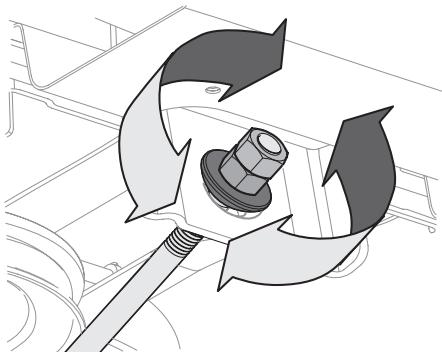

Figure 29
- To raise the front of the deck, loosen the outer nut then tighten (thread inward) the inner nut against the front hanger bracket. See Figure 29. When proper adjustment is achieved, re-tighten the outer nut to 25-30 ft-lbs (34-41 N-m).
- To lower the front of the deck, loosen the outer nut then loosen (thread outward) the inner nut, away from the front hanger bracket. See Figure 29. When proper adjustment is achieved, re-tighten the outer nut.